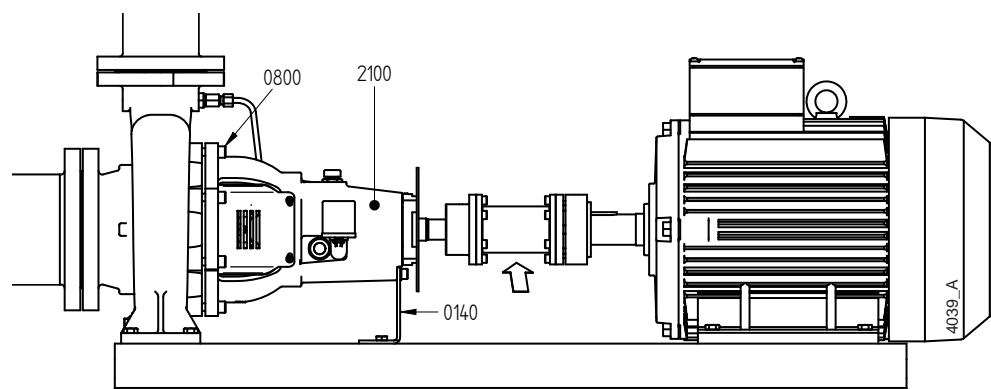
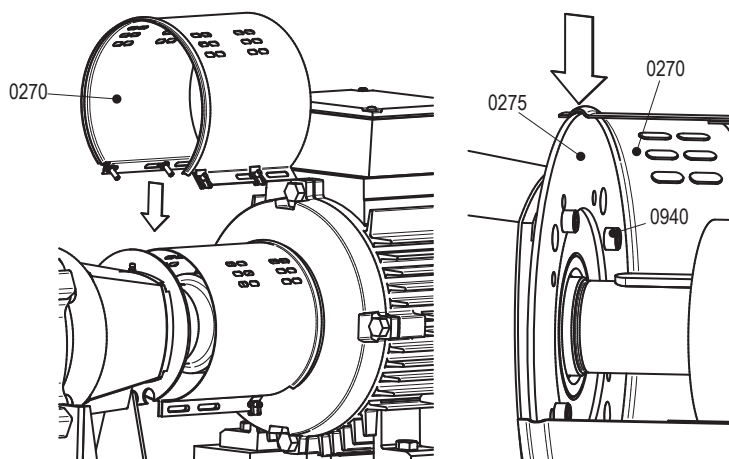

Figure 17: Back-Pull-Out principle.
Figure 21: Fitting the jacket at pump side.
- 3 Loosen the bracket support (0140) from the base plate, see figure 17.
- 6 Remove the coupling half from the pump shaft and remove the coupling key (2210).
- 7 Unscrew bolts (0940) and remove the assembly plate (0275) from the adjusting bush (2240). See figure 21.
- 4 Fit the assembly plate (0275) to the adjusting bush (2240) with bolts (0940). See figure 21.
- 5 Fit the coupling key (2210) and fit the coupling half onto the pump shaft.